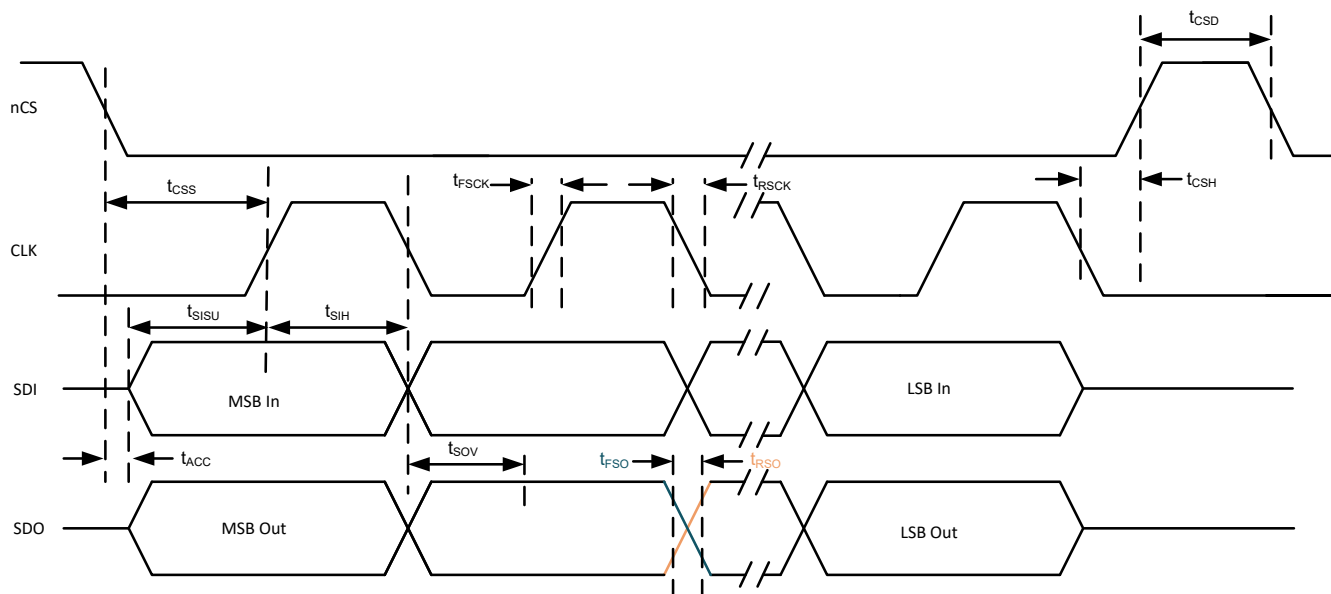

**Figure 7-7. SPI AC Characteristic for Read and Write**
| t SCK                           | SCK, SPI clock period (1)                                                            | See <a href="#">Figure 7-7</a>                                                                                     | 250  |     |      | ns   |
| t RSCK                          | SCK rise time (1)                                                                    | See <a href="#">Figure 7-7</a>                                                                                     |      |     | 40   | ns   |
| t FSCK                          | SCK fall time (1)                                                                    | See <a href="#">Figure 7-7</a>                                                                                     |      |     | 40   | ns   |
| t SCKH                          | SCK, SPI clock high (1)                                                              | See <a href="#">Figure 7-7</a>                                                                                     | 125  |     |      | ns   |
| t SCKL | SCK, SPI clock low (1)                      | See Figure 7-7  | 125 |     |     | ns   |
| t ACC  | First read access time from chip select (1) | See Figure 7-7  | 50  |     |     | ns   |
| t CSS  | Chip select setup time (1)                  | See Figure 7-7  | 100 |     |     | ns   |
| t CSH  | Chip select hold time (1)                   | See Figure 7-7  | 100 |     |     | ns   |
| t CSD  | Chip select disable time (1)                | See Figure 7-7  | 50  |     |     | ns   |
| t SISU | Data in setup time (1)                      | See Figure 7-7  | 50  |     |     | ns   |
| t SIH  | Data in hold time (1)                       | See Figure 7-7  | 50  |     |     | ns   |
| t SOV  | Data out valid (1)                          | See Figure 7-7  |     |     | 80  | ns   |
| t RSO  | SO rise time (1)                            | See Figure 7-7  |     |     | 40  | ns   |
| t FSO  | SO fall time (1)                            | See Figure 7-7  |     |     | 40  | ns   |